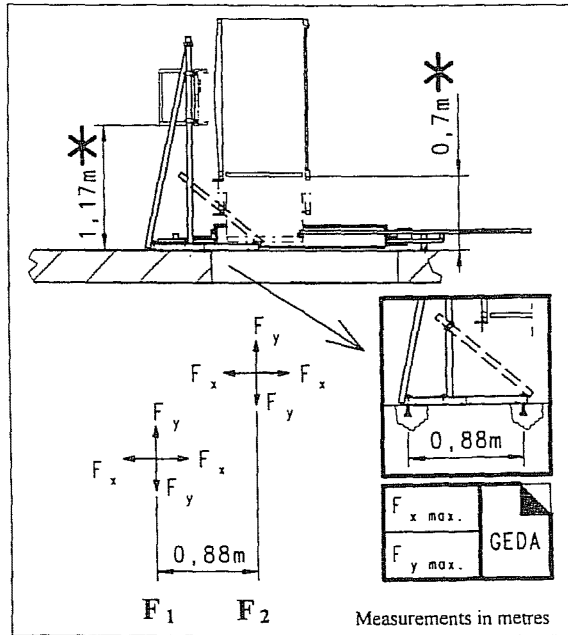

Fig. 19 Anchoring to the wall
- Locate the base unit and ladder section vertically on the anchoring tubes and screw together (establish the distance to the wall or scaffold – see fig. 19 -, and align vertically).
- The base section must be secured against displacement with ground anchors (4). Drive in the ground anchors (4) at an angle from the rack and pinion side of the ladder.